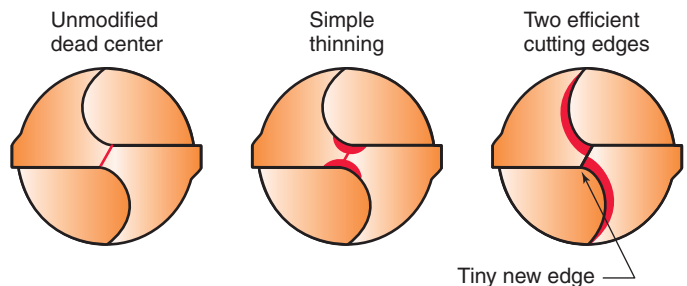

Figure 10-19 Thinning the dead center helps the drill cut with less down feed pressure and heat.
The flutes of a drill bit are held together by a solid core of metal in its center, called the *web*. In Fig. 10-19, looking at the tip of the bit, the web creates the **dead center**, so called because it has no rake angle, clearance, or cutting edge. Without modification, the dead center does not cut, it simply scrapes metal away. There are two choices as to how to proceed.
2. *Thin the web with some extra grinding.* There are two ways to do that. The simple method shown in Fig. 10-19 makes the web thinner but doesn't create very efficient cutting edges. It's quick and easy to grind onto the point but less efficient. It is created by nicking the point on both sides using the corner of a grinding wheel.
The drill point on the right in Fig. 10-19 has been ground with two new cutting edges. This second method requires a sharp corner on the grinding wheel, a steady hand, and some practice, but it creates cutting edges at an angle to the original edges. Have your instructor demonstrate this skill after practicing grinding drill bits in Unit 10-5.